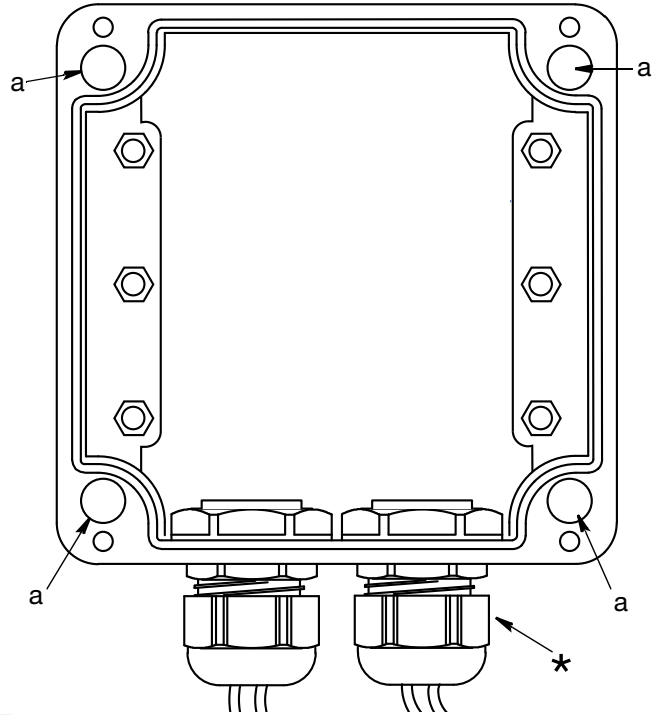

FIG. 3
2. Remove Lubrication Controller cover and align junction box with predrilled holes (FIG. 3, (a)). Use